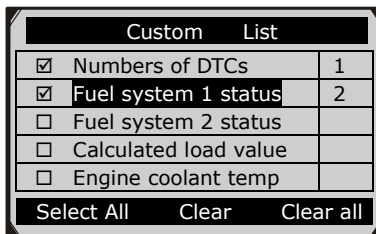

Figure 6.14
- 2) Use the **UP/DOWN** scroll button to move up and down to the desired items and click **Select** button to confirm. The selected parameters are marked with solid squares.( Figure 6.14 )